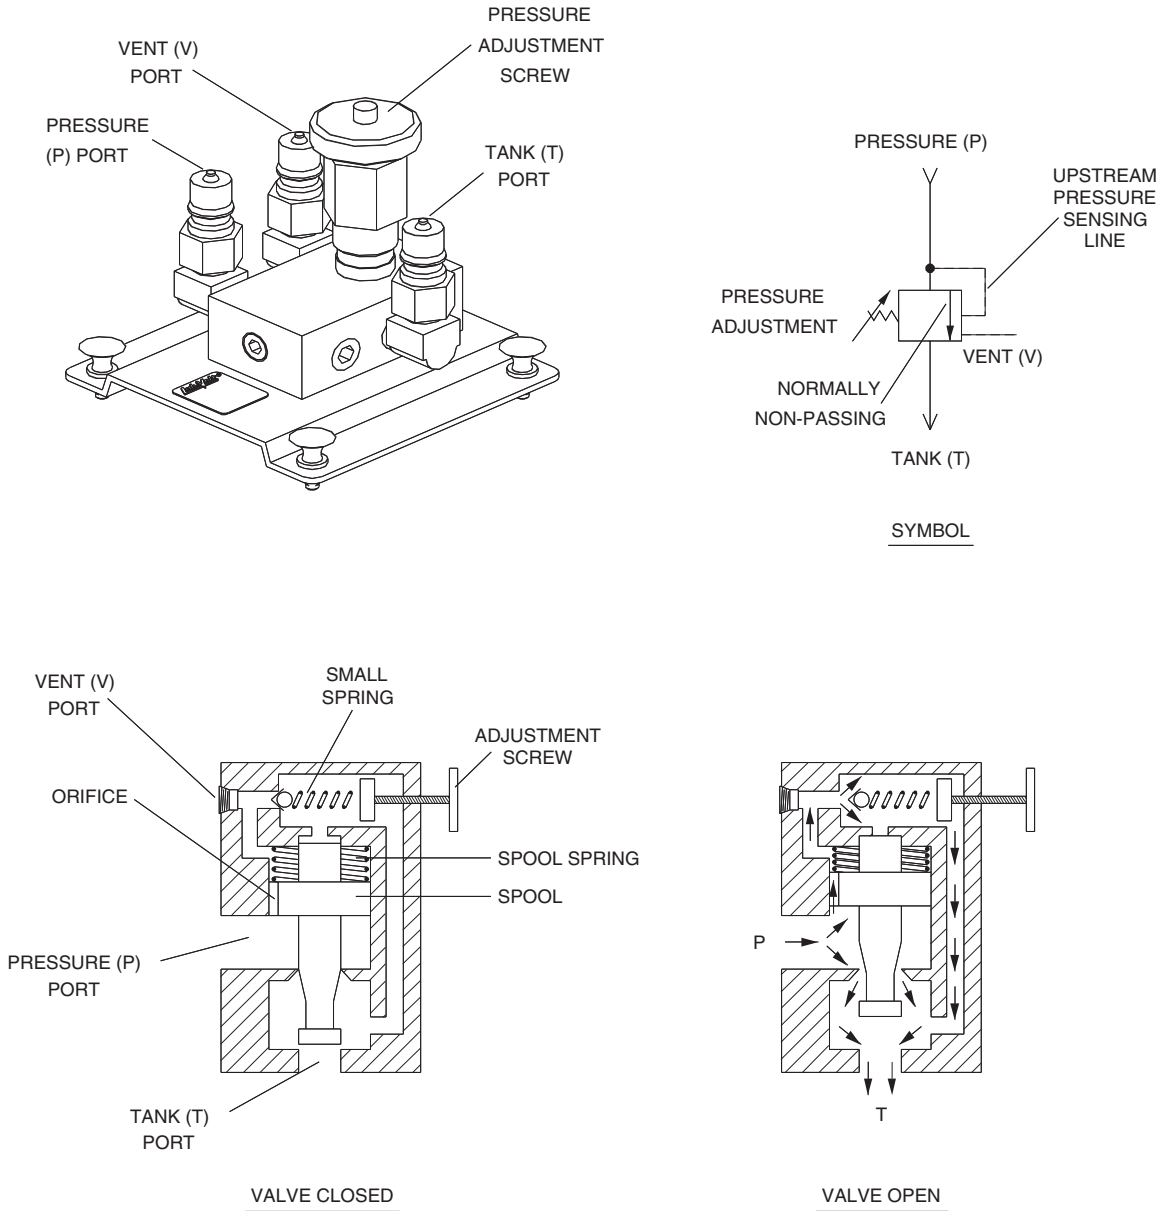

Figure 2-6. Pilot-operated Relief Valve.
Figure 2-6 illustrates the relief valve supplied with your kit of hydraulic components. This valve is of **pilot-operated** type. The valve body has three ports: a **pressure** (P) port, which is to be connected to the pump pressure line, a **tank** (T) port, which is to be connected to the reservoir, and a **vent** (V) port, which is used for control of the valve from a remote point by external valve. The use of the vent port will be discussed in detail in Exercise 4-4. When not used, this port should be left unconnected.